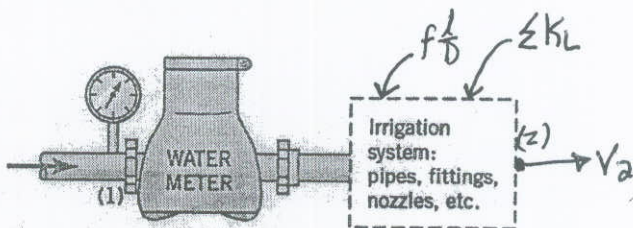

FIGURE P8.89
8.89 As shown in Fig. P8.89, a standard household water meter is incorporated into a lawn irrigation system to measure the volume of water applied to the lawn. Note that these meters measure volume, not volume flowrate. (See Video V8.15.) With an upstream pressure of  $p_1 = 50$  psi the meter registered that  $120 \text{ ft}^3$  of water was delivered to the lawn during an "on" cycle. Estimate the upstream pressure,  $p_1$ , needed if it is desired to have  $150 \text{ ft}^3$  delivered during an "on" cycle. List any assumptions needed to arrive at your answer.